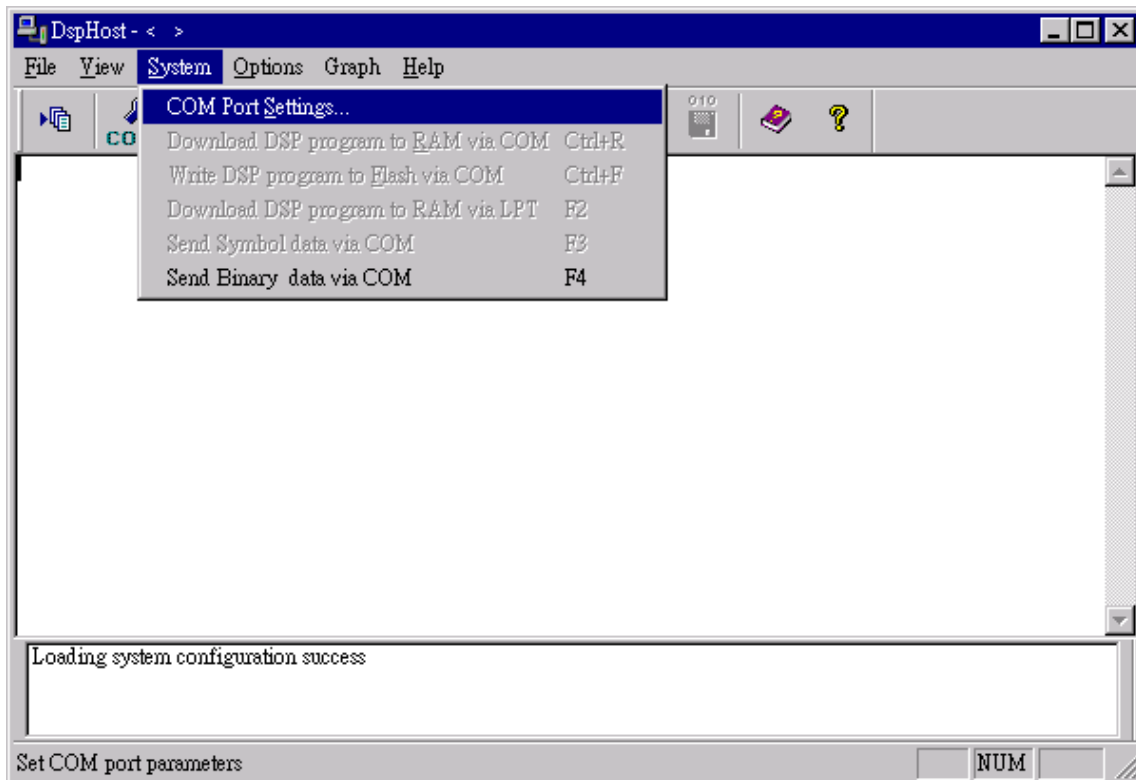
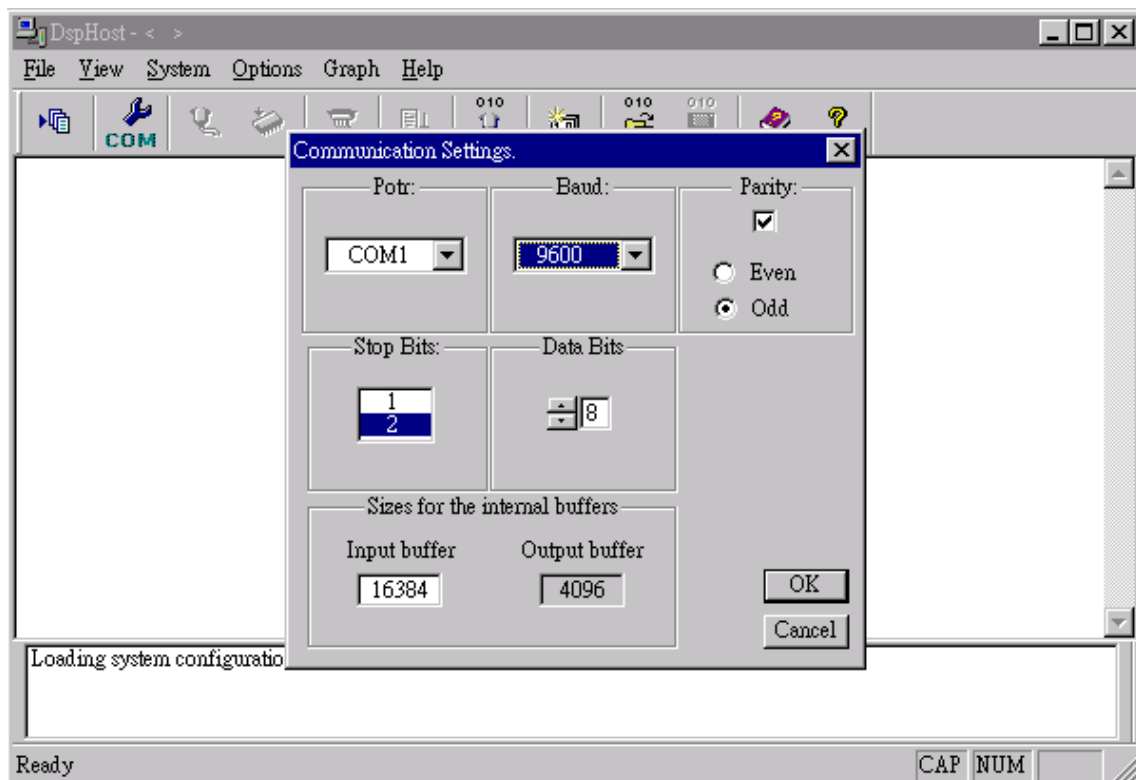

Figure 6.2 Use menu to select “COM Port Settings...”
Figure 6.3 Example of COM1 Communication Settings
- 2) Click on “COM Port Settings...” under “System” (Fig. 6.2) or push the “COM” icon button to make correct settings (Fig. 6.3) based on the serial port you use.